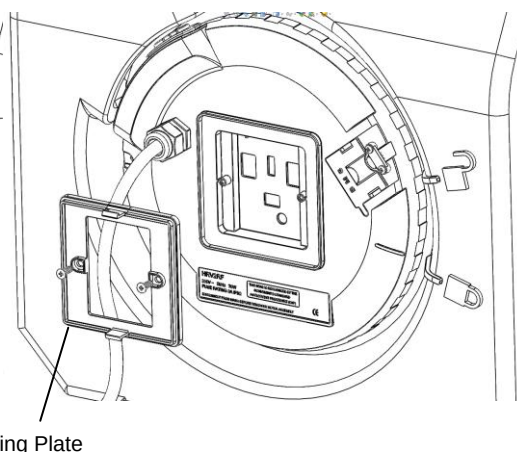

Figure 12
- Using the original two screws, mount the fixing plate (See Figure 12) to the unit.